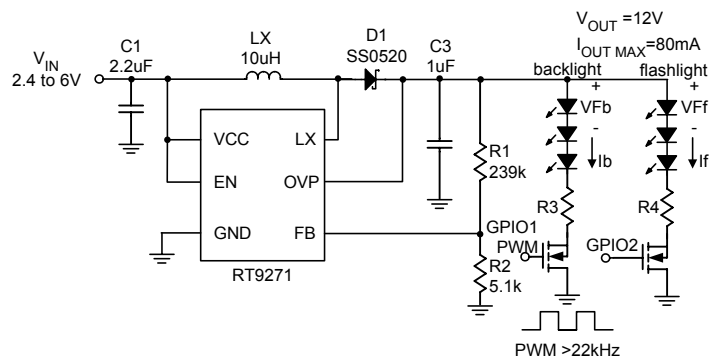

Figure 9. Constant output voltage for backlight and flashlight
Figure 9 is an application of RT9271 for backlight of main panel and flashlight. Setting the divider-resistors (R1 & R2) is to get a constant output voltage that depends on the forward voltage and the numbers of series-LEDs. There are three kinds of mode controlled by the switches - backlight mode /flashlight mode /backlight + flashlight mode. It can turn on backlight or flashlight at one time or both at the same time. Applying different duty cycle of PWM signal above 22kHz to backlight's switch can also control the brightness. The following formula (1)(2) can determine R3 and R4.